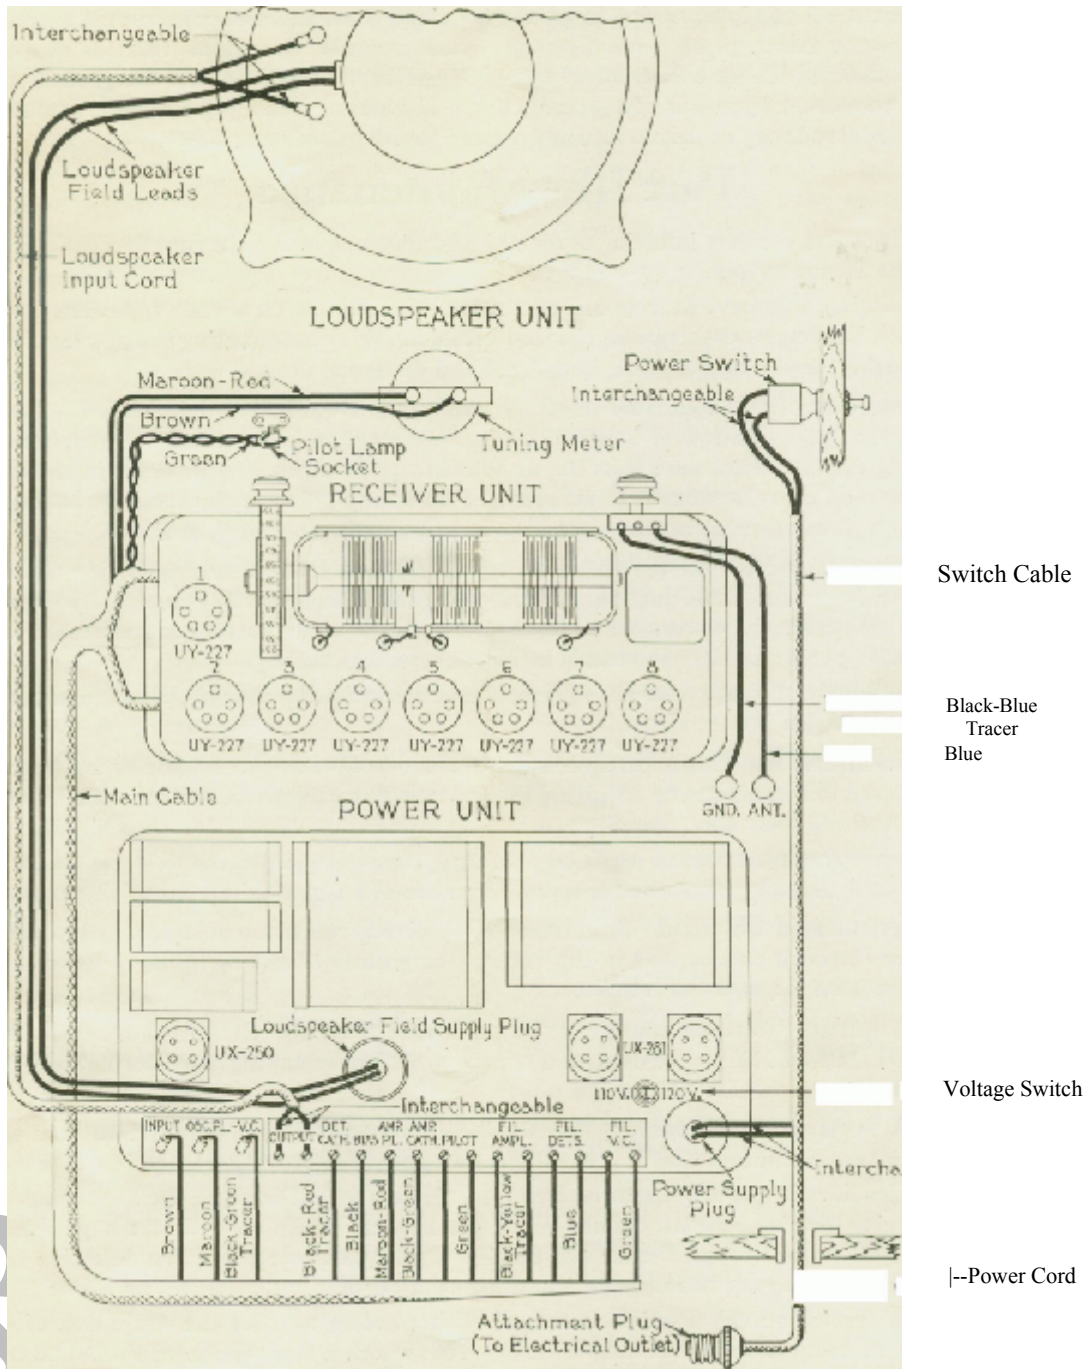

Fig. 6—Radiola 64 Cabinet Wiring
**Radiotrons**—The characteristics of the circuits connected with sockets No. 2 and 7 (Fig. 6) are such that they have an important bearing upon the operation of the Radiola. It is therefore advisable, when installing, to interchange the UY-227 Radiotrons in sockets No. 2 and 7 with the others until best reception is obtained. This arrangement, once made, should not be changed.
If the Volume Control does not appear to function properly change the volume control Radiotron in Socket No. 8, Fig. 6.